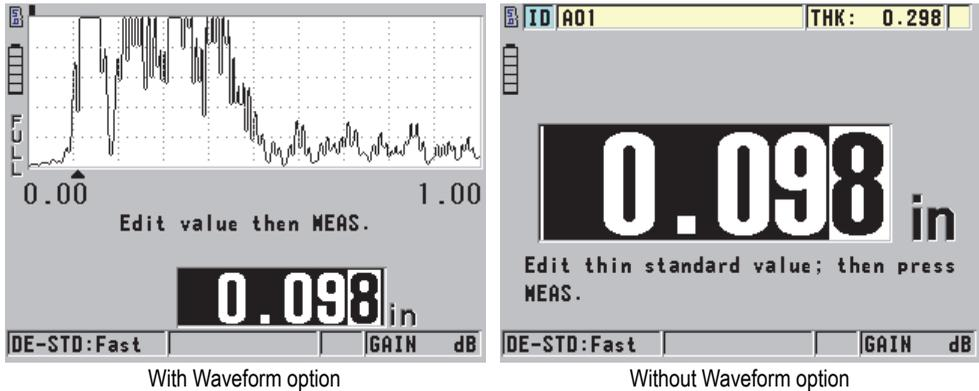

Figure 5-7 Performing the zero calibration on a five-step test block
2. To perform the zero calibration using an instrument with or without the Waveform option (see Figure 5-7 on page 55):